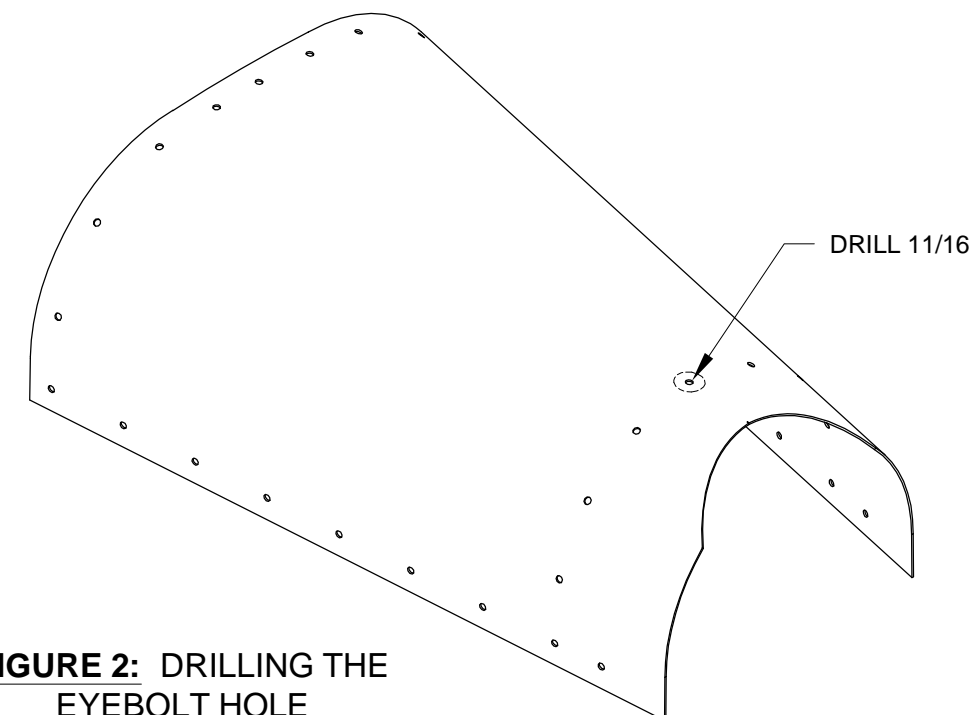

FIGURE 2: DRILLING THE EYEBOLT HOLE
Step 6: Final-Drill the hole indicated in Figure 2 to 11/16 using a Unibit step drill. This hole provides clearance for the tie down eyebolt.